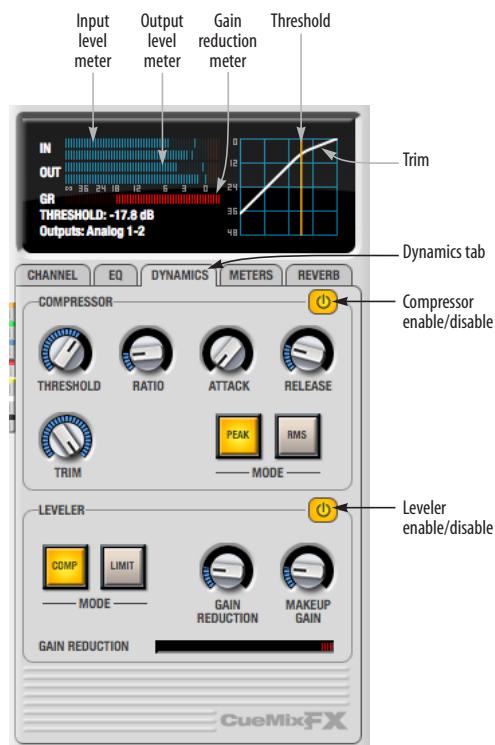

Figure 11-26: The Dynamics tab.
The Dynamics tab (Figure 11-26) displays the Dynamics processing settings for the input or output channel that currently has the focus. Click any focus button in the Inputs or Outputs tab to view the Dynamics tab settings for the channel.
Each input and output channel has a global *Dynamics enable/disable* button (Figure 11-3 and Figure 11-6). This button enables or disables all dynamics processing for the channel. In addition, the Dynamics tab has two different dynamics processors, the Compressor and Leveler, which can be individually enabled or disabled (Figure 11-26) for the channel.
The *Compressor* (Figure 11-26) lowers the level of the input when it is above the threshold. The amount of attenuation is determined by the *Ratio* and the input level. If the input is 6 dB above the *Threshold* and the Ratio is 3:1, then the output will be 2 dB above the Threshold. When the input level goes above the threshold, the attenuation is added gradually to reduce distortion. The rate at which the attenuation is added is determined by the *Attack* parameter. Likewise, when the input level falls below the Threshold, the attenuation is removed gradually. The rate at which the attenuation is removed is determined by the *Release* parameter. Long Release times may cause the audio to drop out briefly when a soft passage follows a loud passage. Short Release times may cause the attenuation to pump when the average input level quickly fluctuates above and below the Threshold.
The Threshold can be adjusted by turning the Threshold knob or by dragging the Threshold line directly in the compressor graph (Figure 11-26).
The *Input Level* meter (Figure 11-26) shows the level of the input signal before it enters the compressor. It shows either the peak level or the RMS level, depending on which mode is currently chosen.
The Gain reduction (GR) level meter (Figure 11-26) displays the current amount of attenuation applied by the compressor.
The *Output Level* meter (Figure 11-26) displays the peaks of the output signal. Trim is applied before the Output Level meter.
The Leveler™ (Figure 11-26) provides an accurate model of the legendary Teletronix™ LA-2A® optical compressor, known for its unique and highly sought-after Automatic Gain Control (AGC) characteristics. The Traveler-mk3 Leveler faithfully models the LA-2A using the on-board DSP with 32-bit floating point precision.
The *Comp* and *Limit* buttons (Figure 11-26) model the original LA-2A Limit/Compress mode switch. The effect is very subtle, with the Limit option behaving only slightly more like a limiter than a compressor. The switch increases the level of the input to the AGC model and runs the attenuator at a slightly lower level. The Leveler then responds more strongly to transients, but otherwise still behaves like a leveling amplifier.
Gain Reduction (Figure 11-26) sets the strength of the signal sent to the AGC model. The Gain Reduction meter (Figure 11-26) shows the amount of gain reduction being applied to the input signal.
Makeup gain (Figure 11-26) amplifies the output signal to make up for gain reduction.